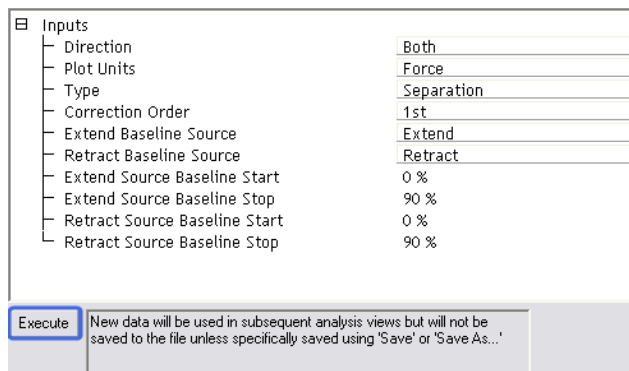

Figure 7.10a: The Baseline filter window
8. Click **Execute** to apply the correction. See Figure 7.10a.